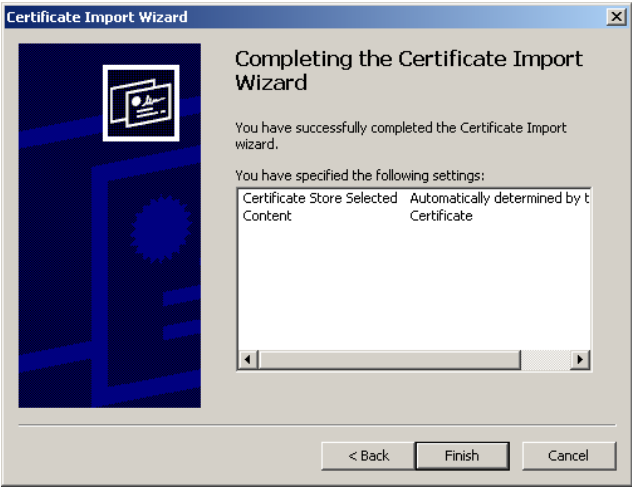
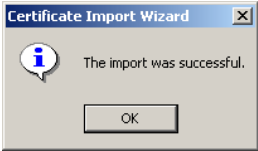

Figure 21. Completing the Certificate Import Wizard Screen
Figure 22. Success Screen
8. Select **Finish** and then **OK** to complete the installation (see Figure 21 and Figure 22).